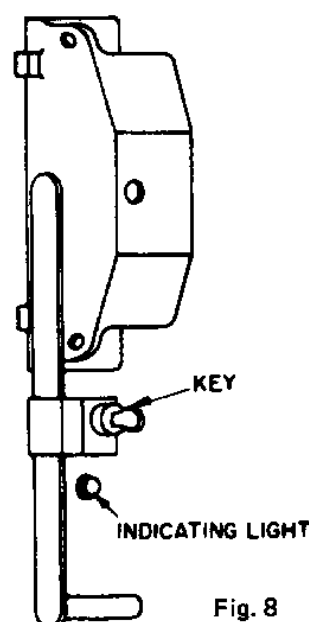

Fig. 8
1. To free handle, turn key 90° to right, shown in Fig. 8. Lock releases handle arm and actuates a safety switch to open electric circuit. Indicating light provides positive visual indication of circuit condition. Light should go on when control power for electric operation is available..
4. Slide latch block up handle arm and place in proper position as shown in Fig. 8. Turn key 90° to left. Handle arm is now locked and electric circuit closed.